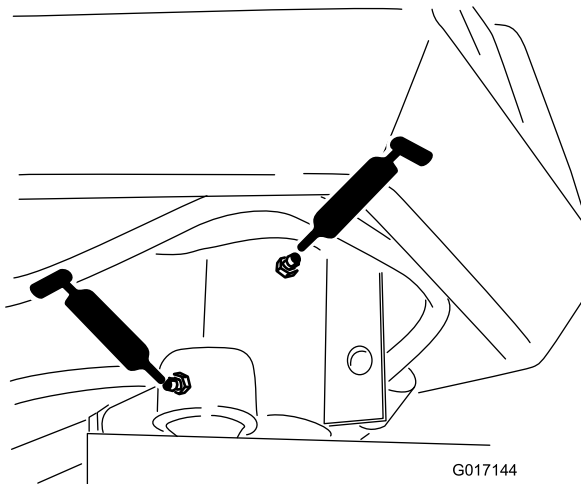

Figure 40
- Steering fork shaft (1) (Figure 40)
- Steering cylinder rod end (Figure 40)